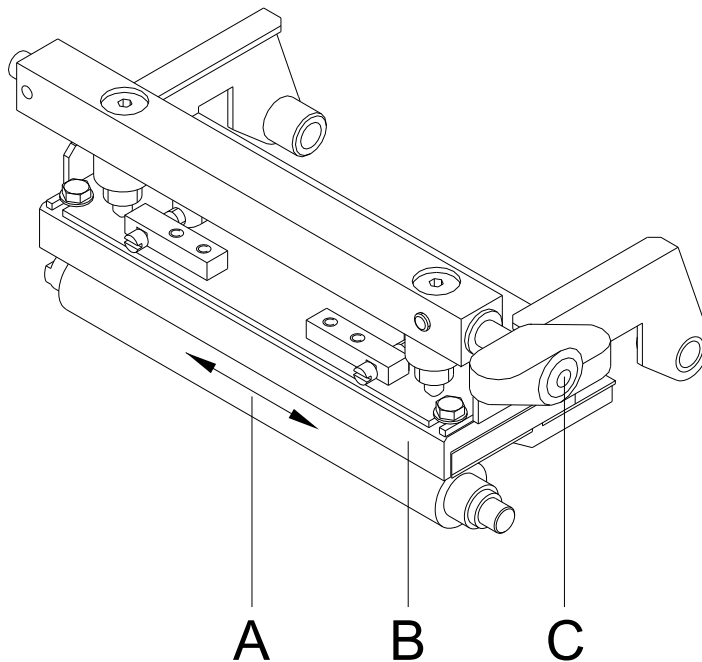

Figure 2
2. Turn lever (A, Figure 2) counter clockwise to lift up the printhead.
2. Turn lever (A, in Figure 2) counter clockwise to lift up the printhead.
4. Blow out the photocell (A) with pressure gas spray. Observe strictly the instructions on the spray can!
5. Clean the label photocell (A) additionally with a cleaning card (B) before soaked in pure alcohol. Move the cleaning card from one side to the other (see illustration).